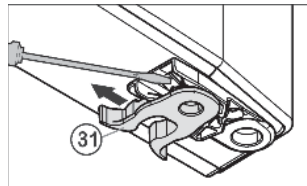

Fig. 8
- ▶ Swap the spring clip *Fig. 8 (31)*: Push the locating lug down. Pull the spring clip up and out.